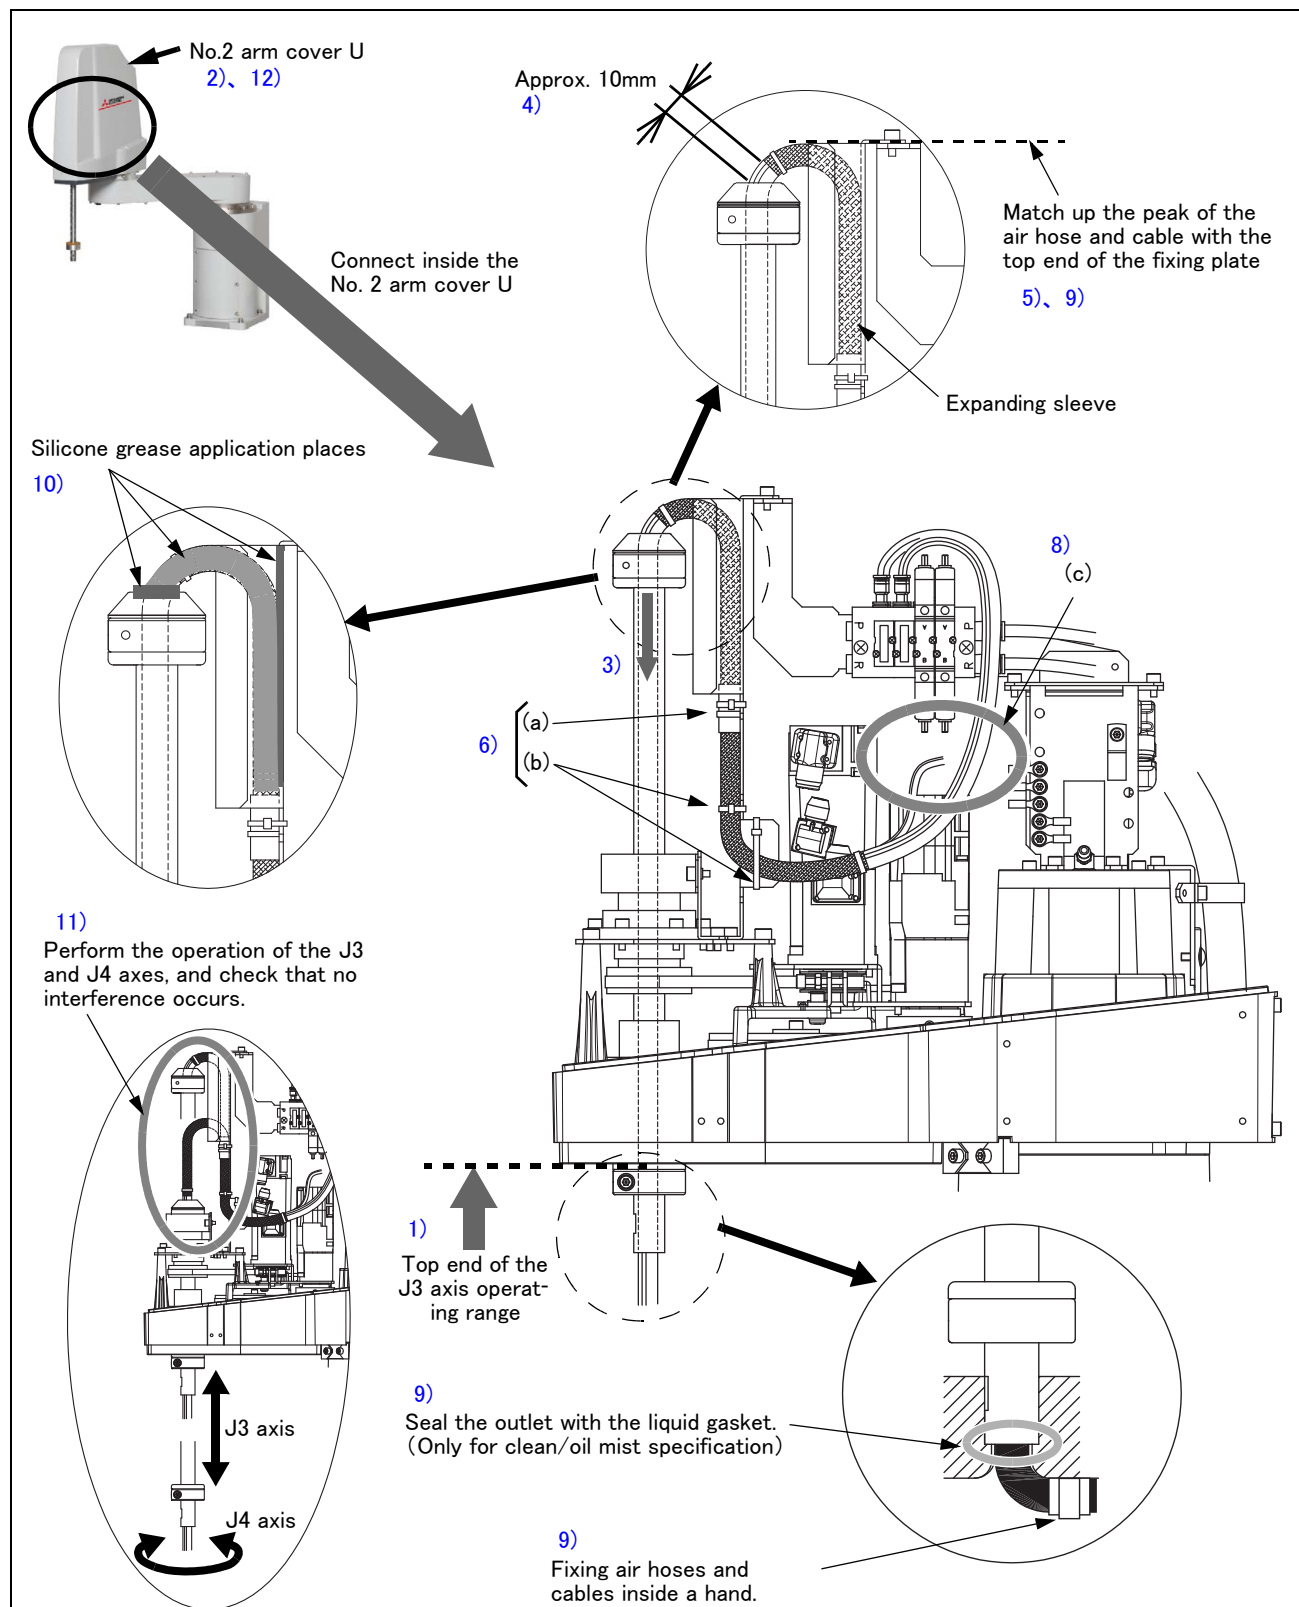
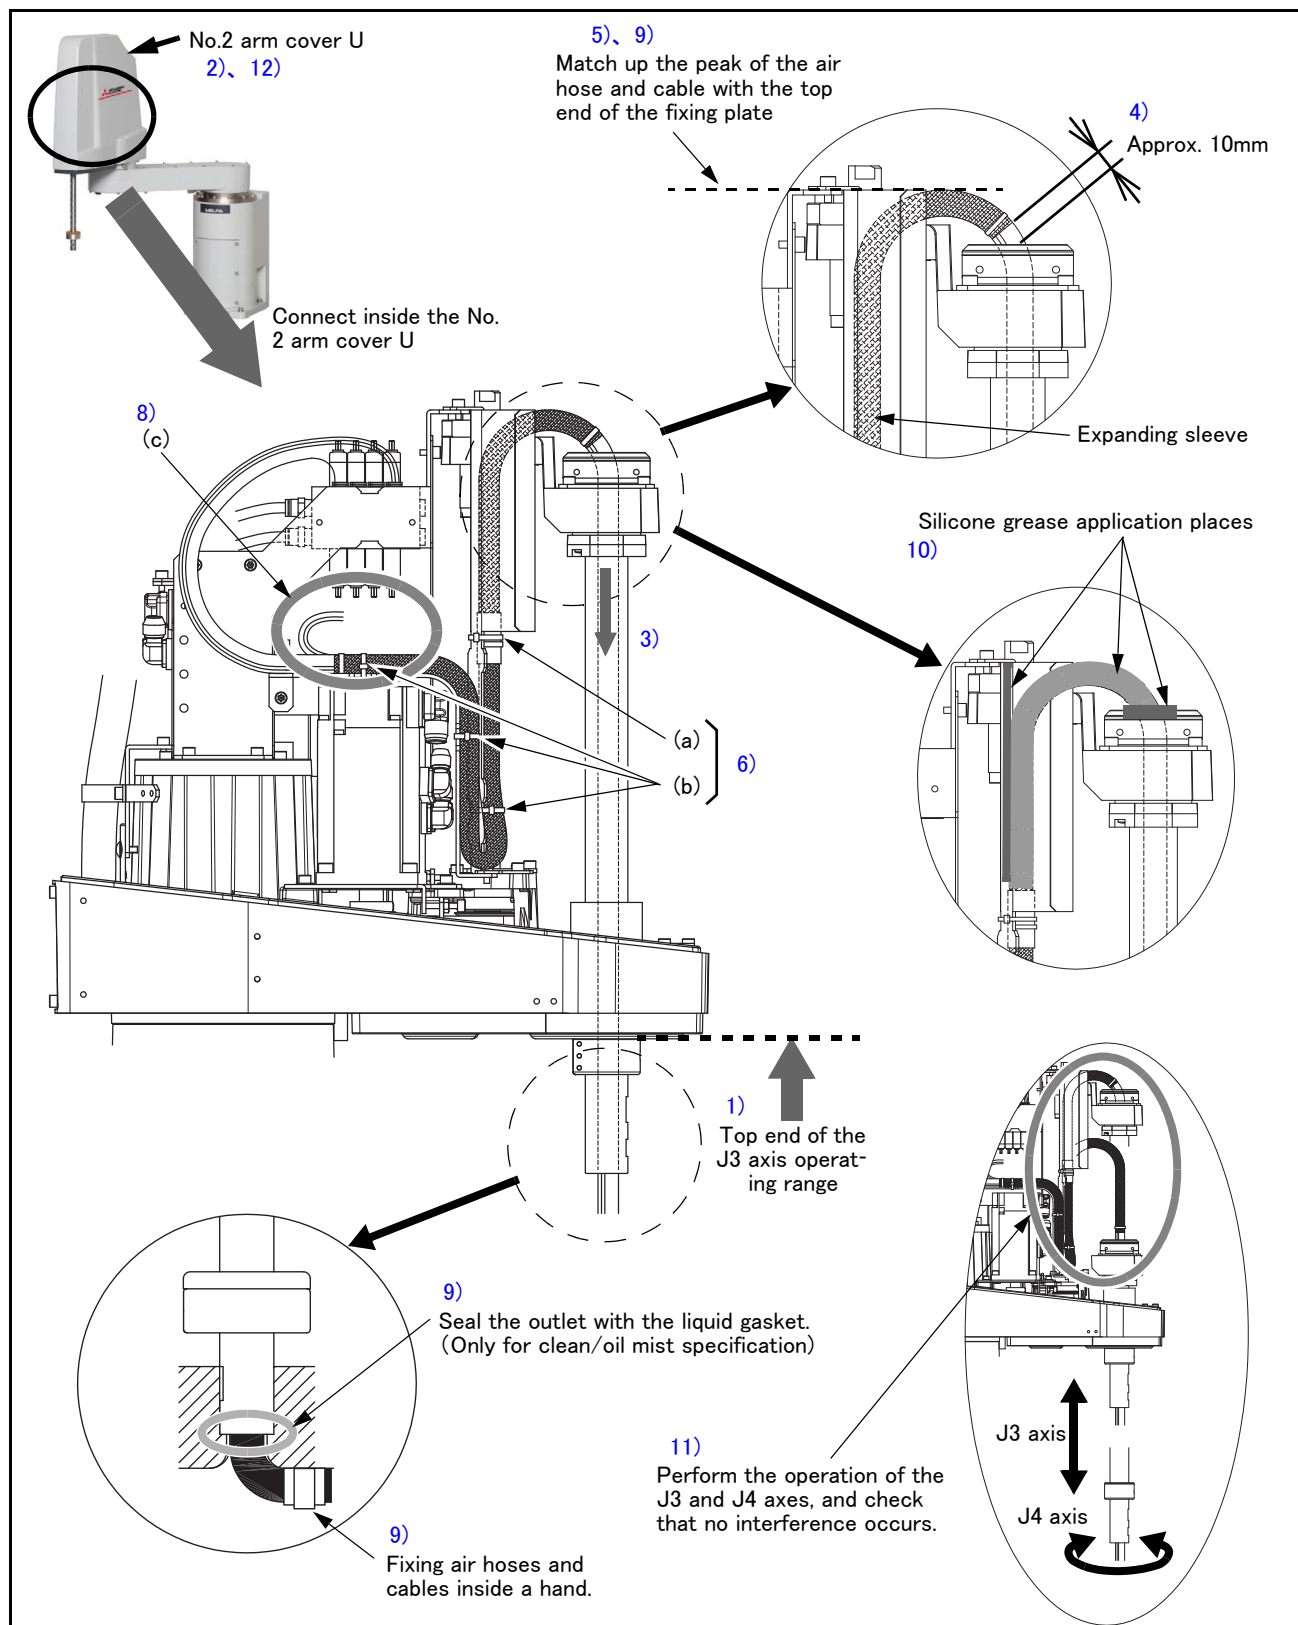
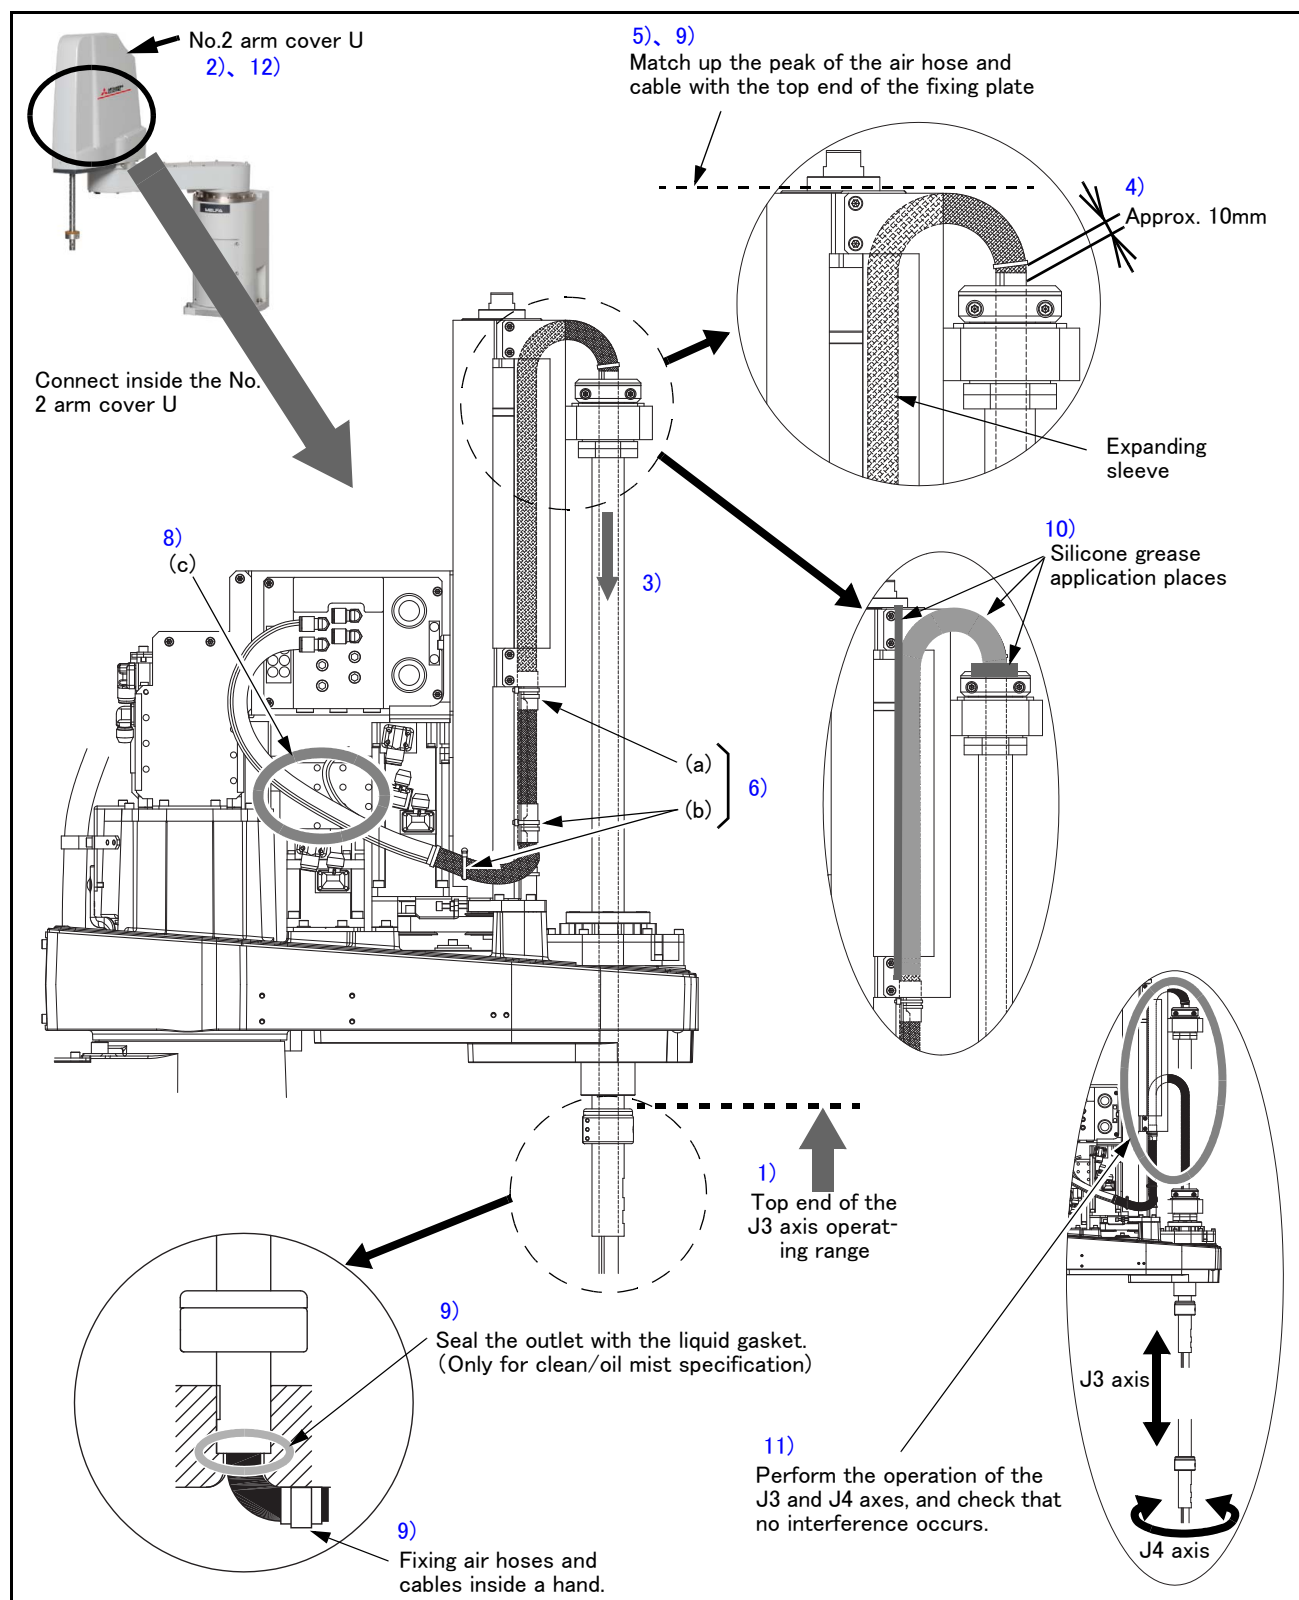

Fig.3-19 : Installing the hand internal wiring and piping set (RH-3FRH series)
Fig.3-20 : Installing the hand internal wiring and piping set (RH-6FRH series)
Fig.3-21 : Installing the hand internal wiring and piping set (RH-12FRH/20FRH series)
Refer to the installation diagram shown from the next section, and perform the installation correctly. Installation diagram of RH-3FRH series is shown in Fig. 3-19, and RH-6FRH series is shown in Fig. 3-20, RH-12FRH/20FRH series is shown in Fig. 3-21.
(2) RH-3FRH series
Refer to Page 84, "(1) Installation procedure" and install cables and air hoses correctly. The numbers in Fig. 3-19 are correspond to the same numbers in "(1) Installation procedure".
(3) RH-6FRH series
Refer to Page 84, “(1) Installation procedure” and install cables and air hoses correctly. The numbers in Fig. 3-20 are correspond to the same numbers in “(1)Installation procedure”.
(4) RH-12FRH/20FRH series
Refer to Page 84, "(1) Installation procedure" and install cables and air hoses correctly. The numbers in Fig. 3-21 are correspond to the same numbers in "(1)Installation procedure".